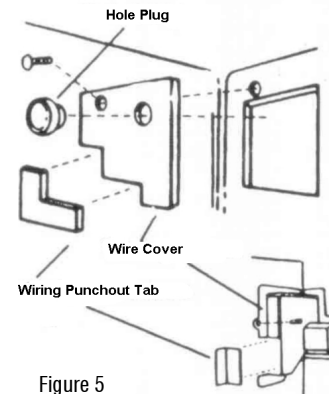

Figure 5
3. This icemaker is for pre-wired refrigerator / freezers, if your refrigerator / freezer is not prewired, please contact your dealer for the correct icemaker unit. Most prewired units have protective plugs and covers over the water and electrical connections. Using a screwdriver or putty knife, gently remove these plugs see Figure 5. Typically the electrical harness cover is attached with a 1/4" hex head Phillips™ head screw, remove this cover also. Check the electrical connection in this icemaker to make sure that the connector is the right one for this refrigerator, if not contact your distributor for the correct icemaker.